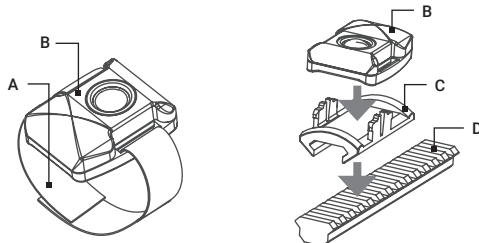

FIGURE 2-10. WIRELESS REMOTE CONTROL
Using Velcro® tape (A, Figure 2-10), fasten the remote control (B) to your weapon in an easily accessible place (e.g., on the front of the rifle stock).